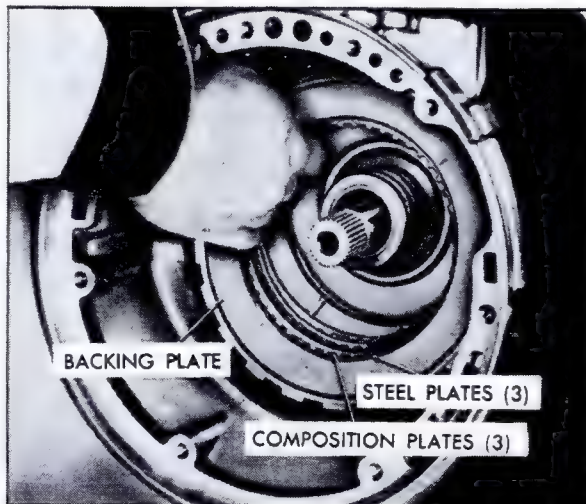

Fig. 7-111 Installing Intermediate Clutch Plates
11. Lubricate three steel and three composition intermediate clutch plates with transmission fluid and install clutch plates in transmission case, Fig. 7-111. Start with the waved steel plate and alternate composition and steel plates.